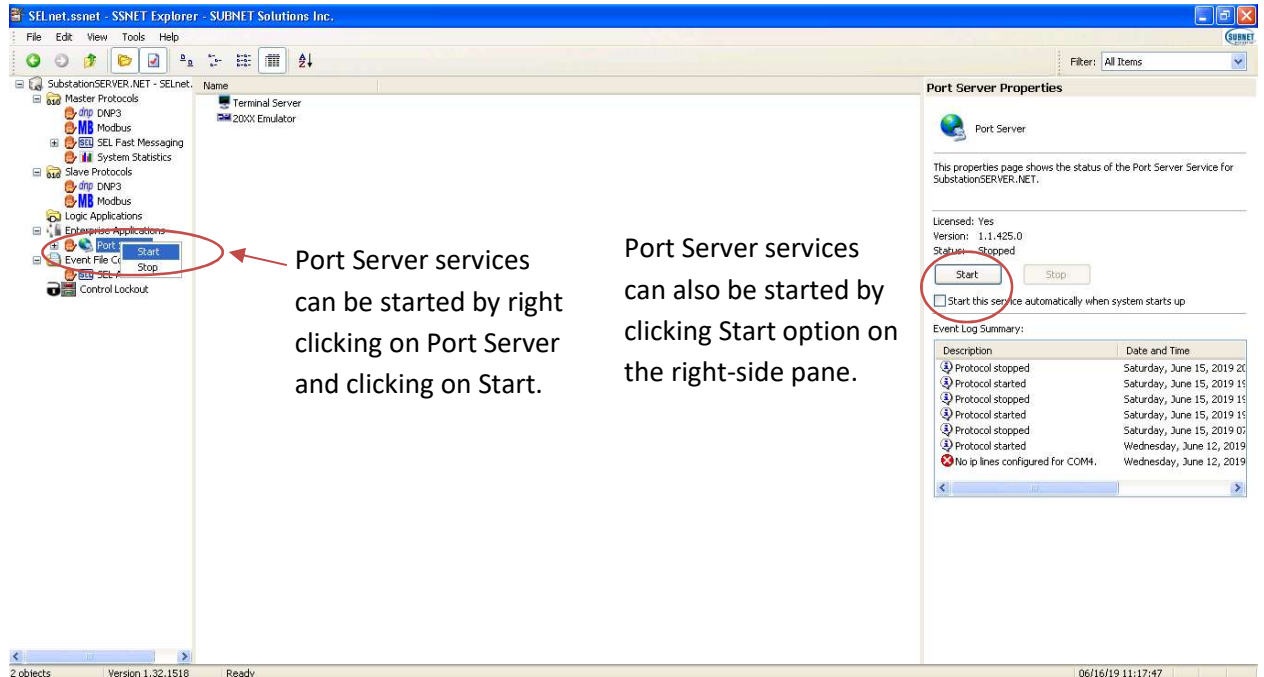

Figure 4.20 Start Port Server services
- 10) Once the settings have been configured, Port Server services have to be started. This can be done by right clicking on the Port Server (Substation SERVER.NET-SELnet.ssnet* → Enterprise Applications → Port Server). The services can also be started by clicking “Start” on the right-side pane. It is also convenient to check “Start this service automatically when system starts up” option. This is shown in Figure 4.20.